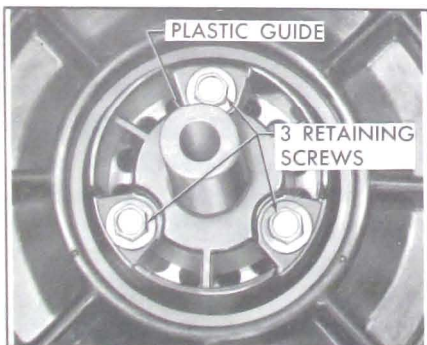

Figure 9-26—Location of Guide Screws
2. Loosen and remove the three screws which attach the plastic guide to the plastic power piston. See Figure 9-26.